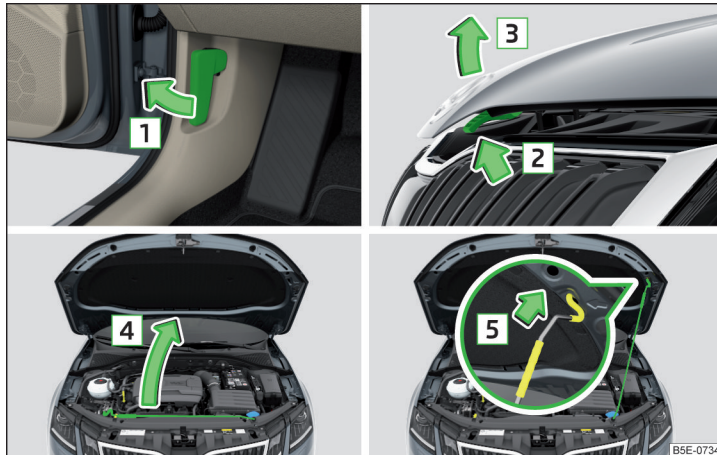

Fig. 314 Opening the bonnet
- Open the front door and pull the release lever below the dash panel in the direction of arrow **1** » Fig. 314.